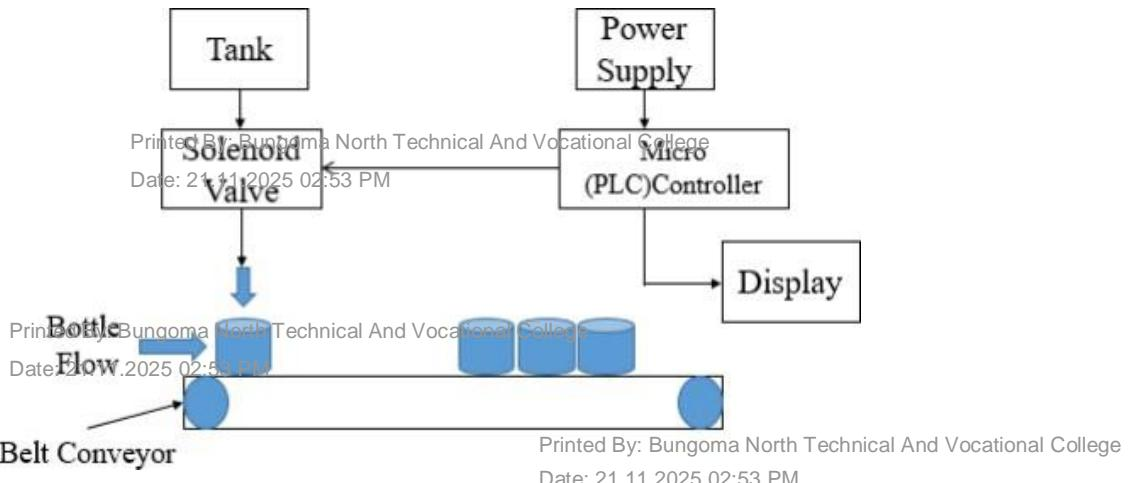

Figure 2
b) If the company used the assembly in Figure 2 for water bottle filling process, draw a ladder logic diagram for simulation of this operation. (8 marks)
15. Jogging or inching is the momentary ON operation of a motor for accomplishing a small movement of the driven machine. Figure 2 shows a jog control circuit requiring a double-contact jog pushbutton—one NC contact and one NO contact. When the ‘Jog’ button is pressed, the seal in circuit to the starter coil (M) is opened by the NC contacts of the ‘Jog’ pushbutton. As a result, the starter coil (M) will not lock in; instead, it can only stay energized as long as the ‘Jog’ button is fully pressed. As a result, a jogging action can be obtained.